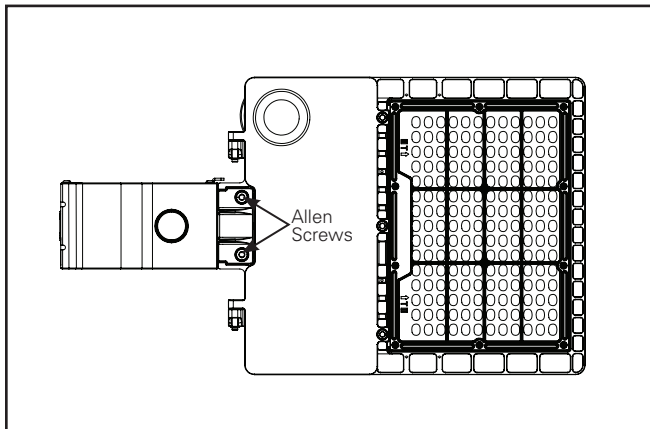

**Figure 8.**
- Align pole mount arm top hole with top hole in pole. Align pole mount slot with bottom hole in pole (Figure 8.)
- From inside the pole, insert bolts through pole, adapter (if applicable), pole mount arm, washers, and splitwashers. (Figure 8.)